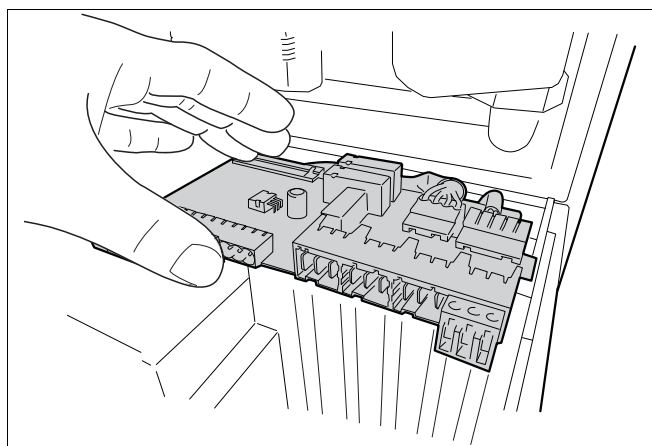

fig. 65 Removing the external connection board
- Remove the external connection board (see fig. 65).